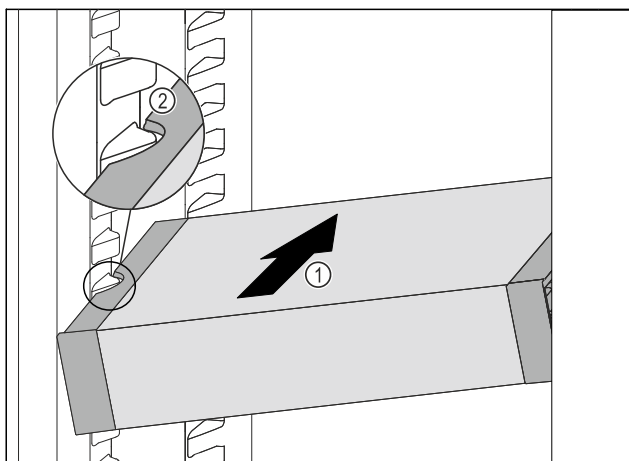

Fig. 127
- ▶ Insert the VarioSafe into the fridge section at an angle *Fig. 127 (1)* until the recesses in the side *Fig. 127 (2)* of the VarioSafe are at the level of the support rib in the fridge section.